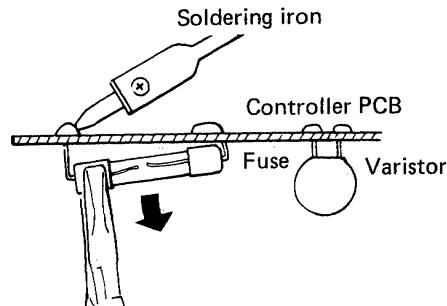

Fig. E-11
2. Pull out the fuse at the metal clasp by a pair of pliers while heating the soldered leads on the back side of the controller PCB with a soldering iron (30 W or 60 W). Fig. E-11.